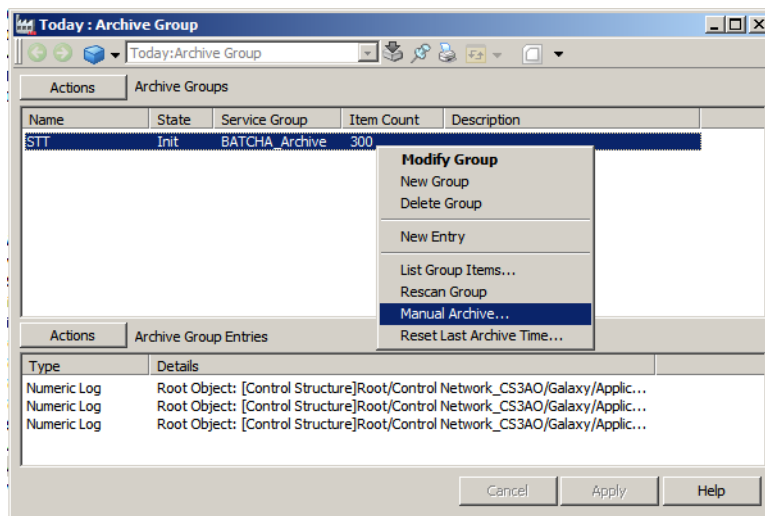

Figure 73. Selecting the Archive Group
1. Select the **Archive Group** whose entries are to be manually archived, then right click and choose Manual Archive from the context menu as shown in Figure 73.